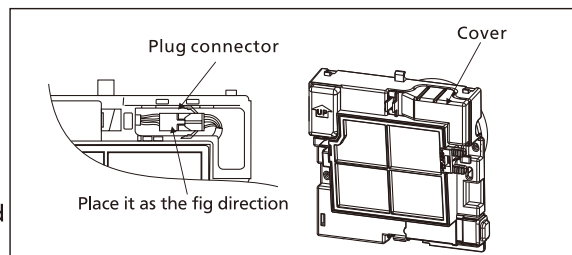

Fig.12
12. Link up the plug connector and close the cover. (Fig.12)